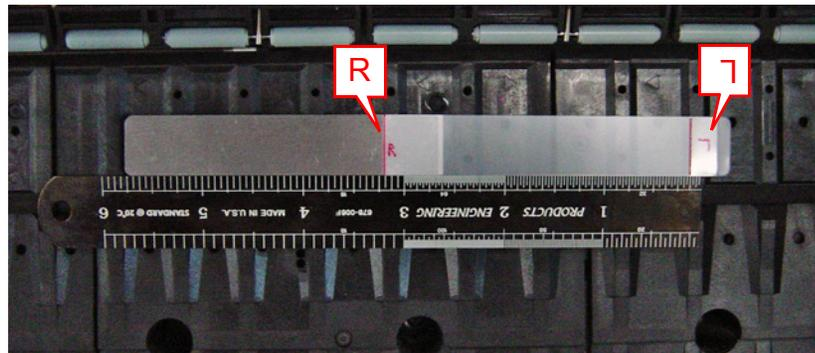

Figure 5-22. Position of the Adjustment jig
5. See Figure 5-22 and secure the ruler on the Platen with the double-sided tape.
NOTE: Make sure to set the Ruler and the jig on the position A as shown in Figure 5-22.
NOTE: For the center, set the Ruler and Thickness Gauge on the position B shown in Figure 5-22, and for the left side, set them on the position C shown in Figure 5-22.